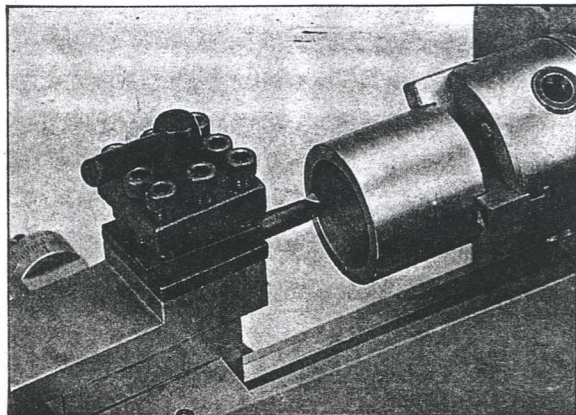

Fig. 14
2. Use the chuck to hold the workpiece firmly and cutter to start lathe's face cutting (figure 14). The edge of the cutter must be at the same height as the center.